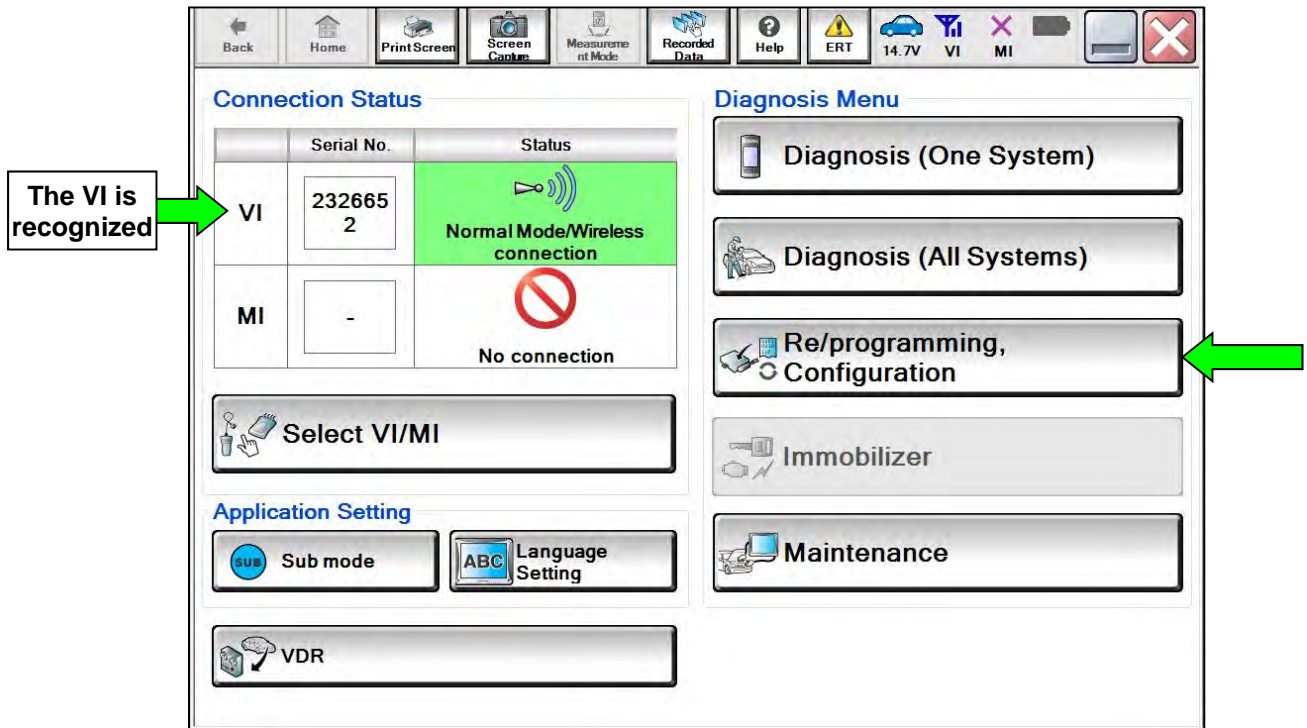

Figure 1
4. Wait for the VI to be recognized (Figure 1 on page 3).